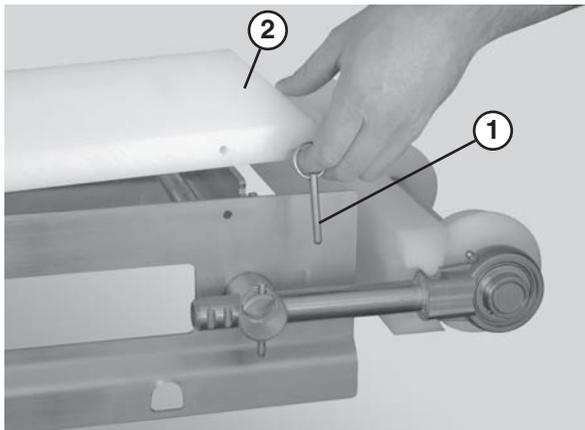

Figure 44
1. Remove the pull pins (**Figure 44, item 1**) that connect the guide (**Figure 44, item 2**) to the frame.